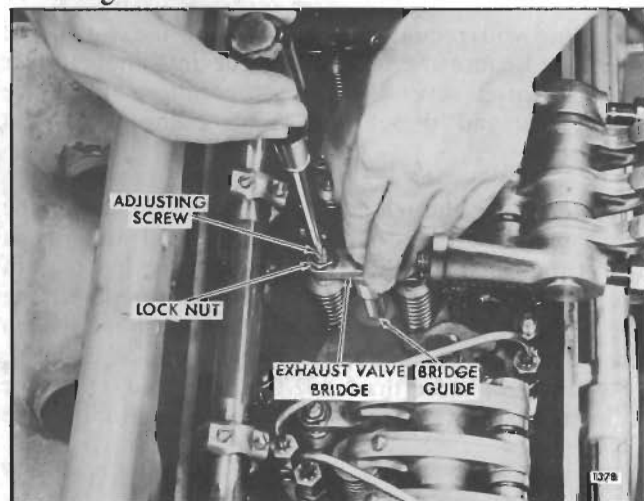

Fig. 16 - Valve Bridge Adjustment
3. While firmly pressing straight down on the pallet surface of the valve bridge, turn the adjusting screw clockwise until it just touches the valve stem. Then turn the screw an additional 1/8 to 1/4 turn clockwise and tighten the lock nut finger tight (Fig. 16).